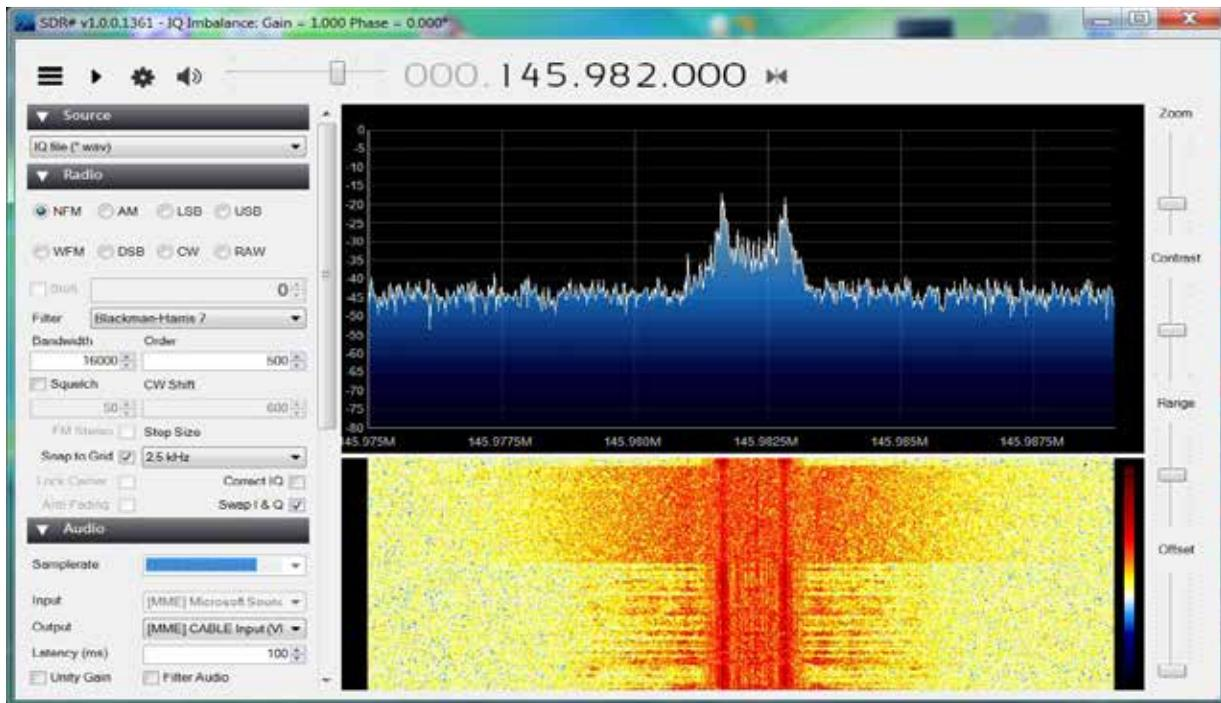

Figure 8.
8. From the “Select Audio source and press start” drop down box, select “CABLE Output (VB-Audio Virtual,” sampling rate “48000” (Default), “AF” and “Low Speed”). (See Figure 8.)